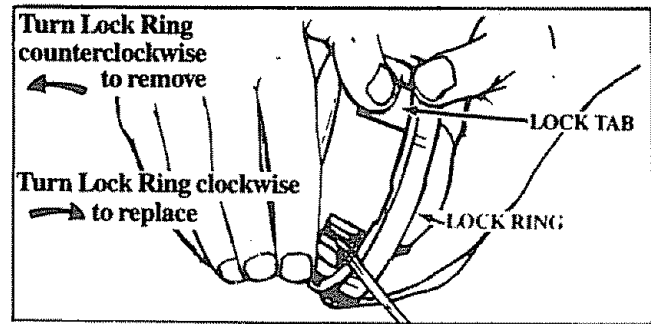

Figure 21
- Hold the Trimmer Head as shown in Figure 21. Press the Lock Tab and turn Lock Ring as shown in Figure 21.
- Align the Lock Ring over the three Catches on the Hub. Push the Lock Ring down on the Hub and turn as directed in Figure 21.